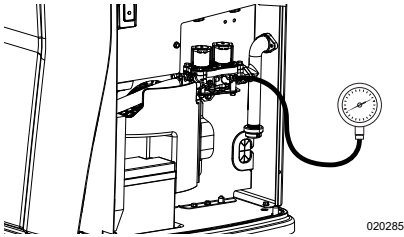

Figure 5-3. Checking Pressure with Manometer
2. See Figure 5-3. Remove far right fuel pressure test port from fuel regulator and install fuel pressure tester (manometer).